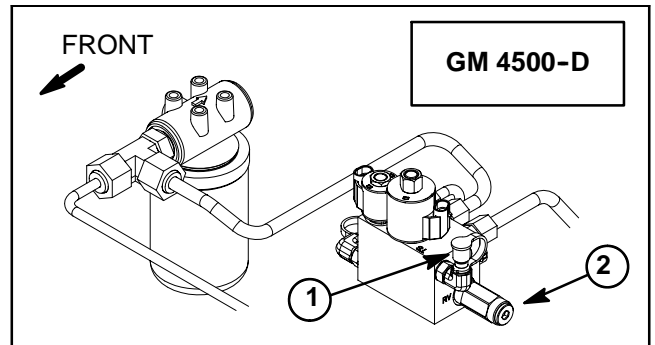

Figure 50
1. Make sure hydraulic oil is at normal operating temperature by operating the machine for approximately ten (10) minutes. Make sure the hydraulic tank is full.
3. Raise and support hood to gain access to lift control manifold (Fig. 50 or 51). Connect a 5000 PSI (350 bar) pressure gauge with hydraulic hose attached to lift manifold test port G1. Route gauge hose to allow hood to be safely lowered.